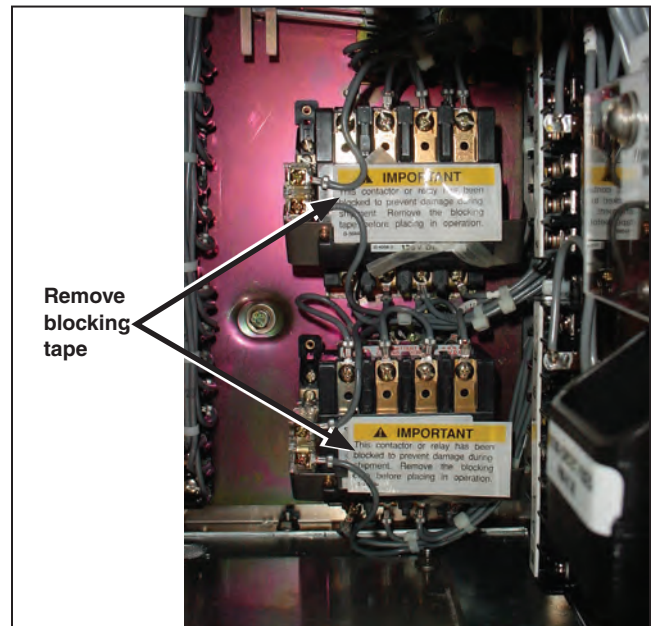

Figure 56. Remove the blocking tape from motor contactors.
- STEP 2.** Remove the labels and the blocking tape from the motor contactors. See Figure 56.